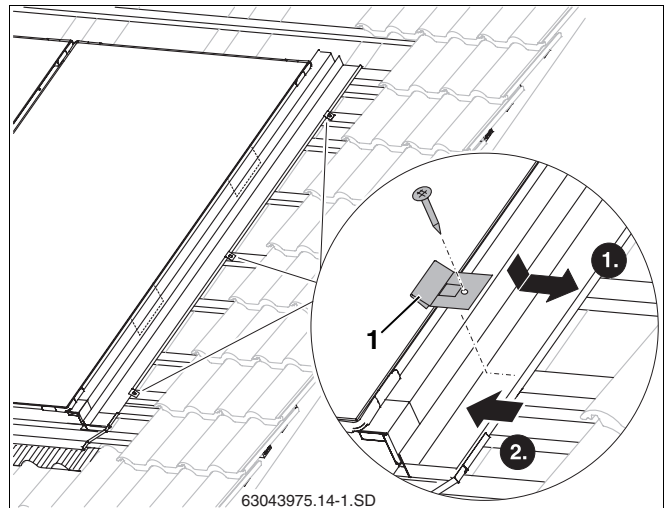

Fig. 48 Securing side facing panel
- ▶ Insert clip (Fig. 48, **Item 1**) into the edge of the side facing panel.